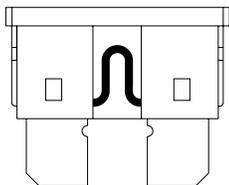

FIGURE 9. WORKING FUSE
- Examine the 5-amp charger fuse. If the fuse is blown, the batteries will not charge. See figures 9 and 10.